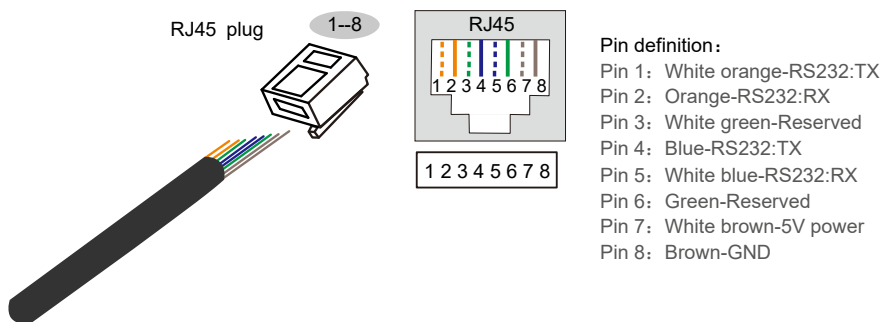

Figure2-15 Pin definition of RS232
2. RS232 port is used for RS232 serial port communication, which is to achieve the external SNMP card communication. RS232 port adopts RJ45 plug. The pin definition as shown in Figure2-15